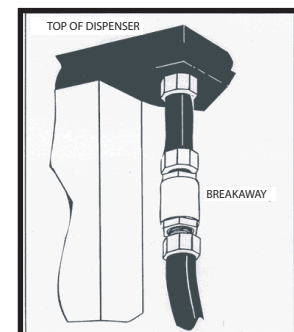

Figure 13, Breakaway
b. Breakaway — check for damage and fuel flow is in correct direction. (Figure 13)